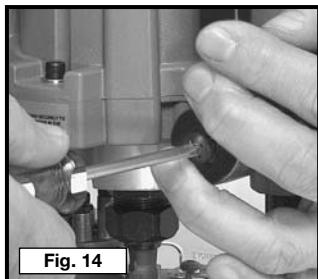

Fig. 14
1. While holding lever in upright position (Fig. 14), remove retaining screw. Continue to hold lever through remaining steps.